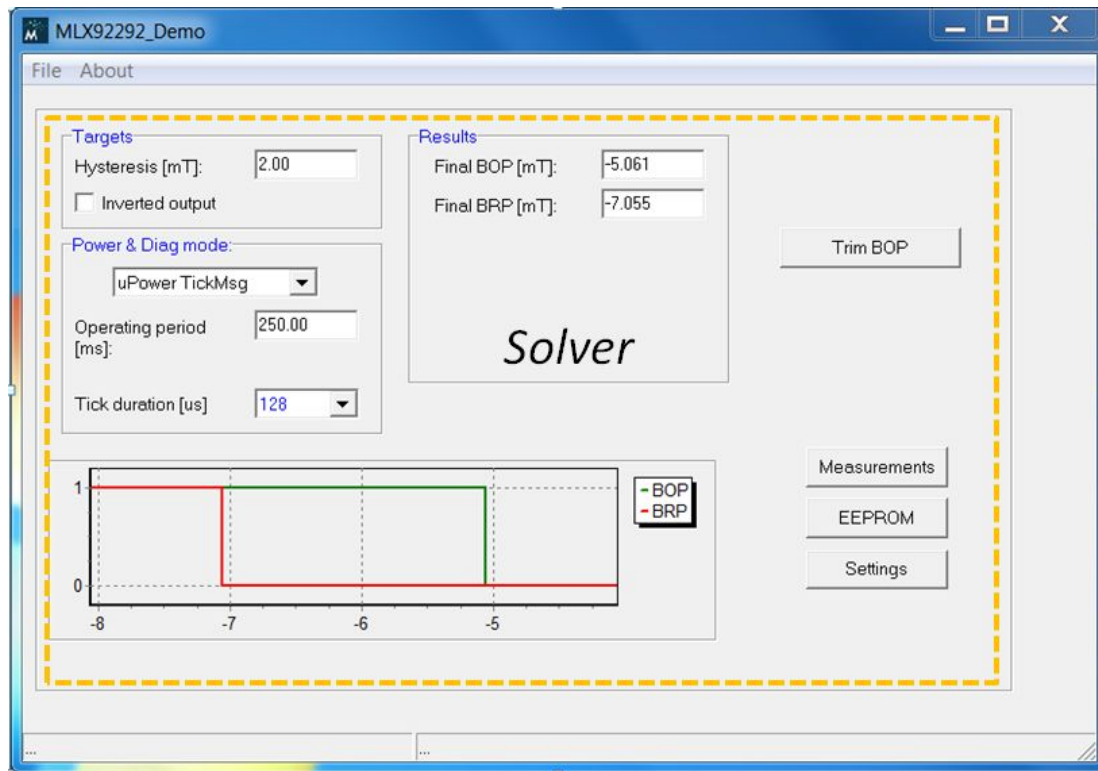

Figure 7 - MLX92292\_Demo User Interface
- Afterwards the MLX92292\_Demo User Interface appears, see figure 7.